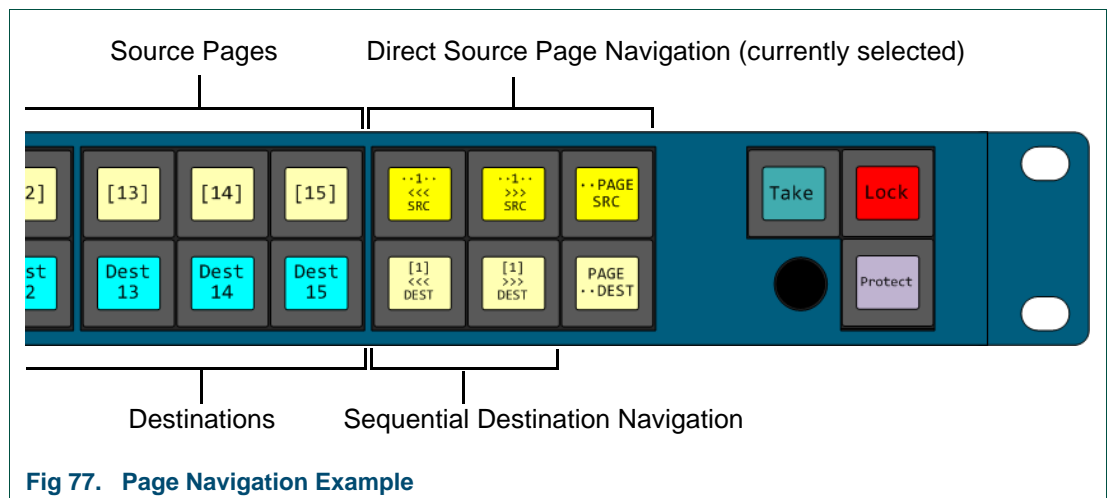

Fig 77. Page Navigation Example
- Either, use the Page Change button to the next block of buttons available, or use the Page Up and Page Down buttons to display the next or previous block of buttons (see Sequential Destination Navigation in Fig 77.)
2. The Page Up and Page Down buttons change to be Next Page / Previous Page buttons (see Direct Source Page Navigation in Fig 77.) Use these to navigate to the required page.